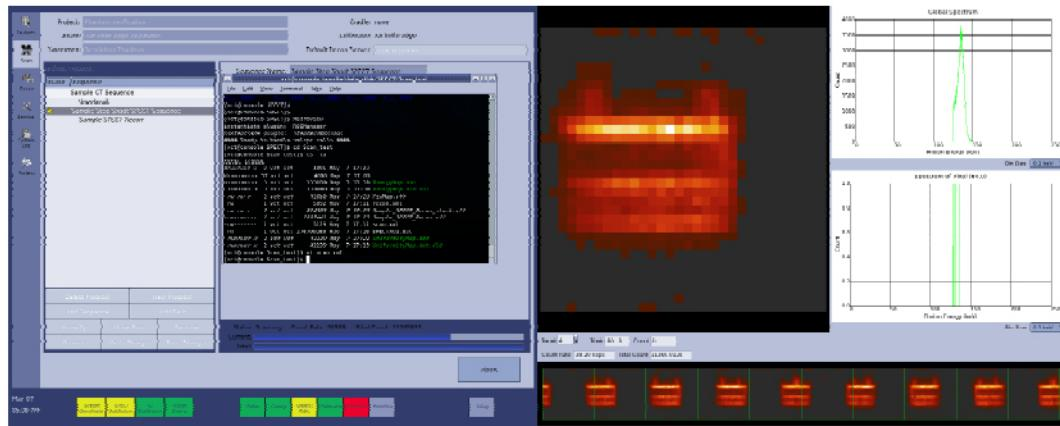

Figure 7-54
- 4.) The typical global spectrum and pixel map on the Console's right hand screen are shown in Figure 7-54 .